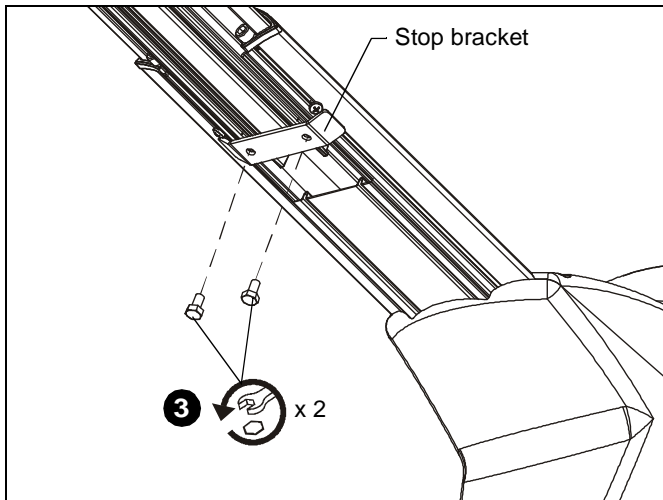

Figure 29
3. Remove two bolts holding stop bracket in place on underside of short throw projector mount. (See Figure 29)